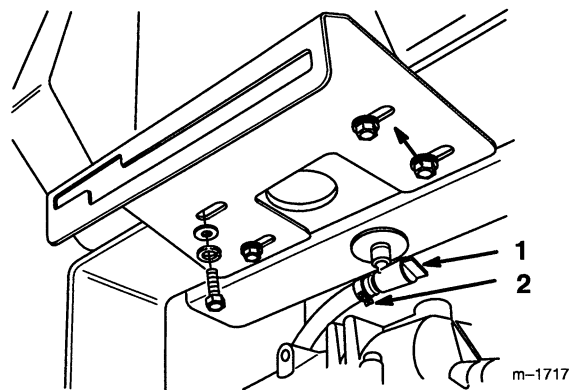

Figure 27
2. Close fuel shut-off valve at fuel tank (Fig. 27).
3. Squeeze the ends of the hose clamp together and slide it up the fuel line away from valve (Fig. 27).
4. Pull the fuel line off the valve (Fig. 27). Open fuel shut-off valve and allow gasoline to drain into a gas can or drain pan.
6. Open fuel shut-off valve at fuel tank (Fig. 27).